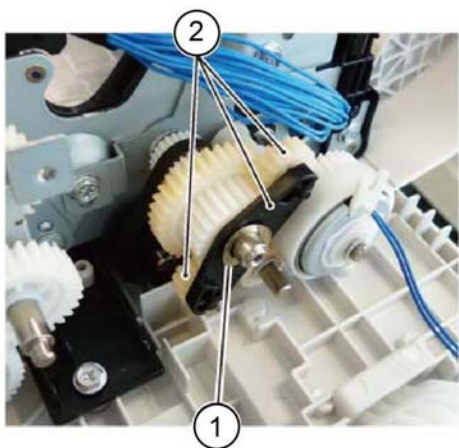

Figure 2 Idler gear bracket removal
9. Remove the idler gear bracket, **Figure 2**:
- Remove the washer (1).
- Remove two gears, then the idler gear bracket (2).